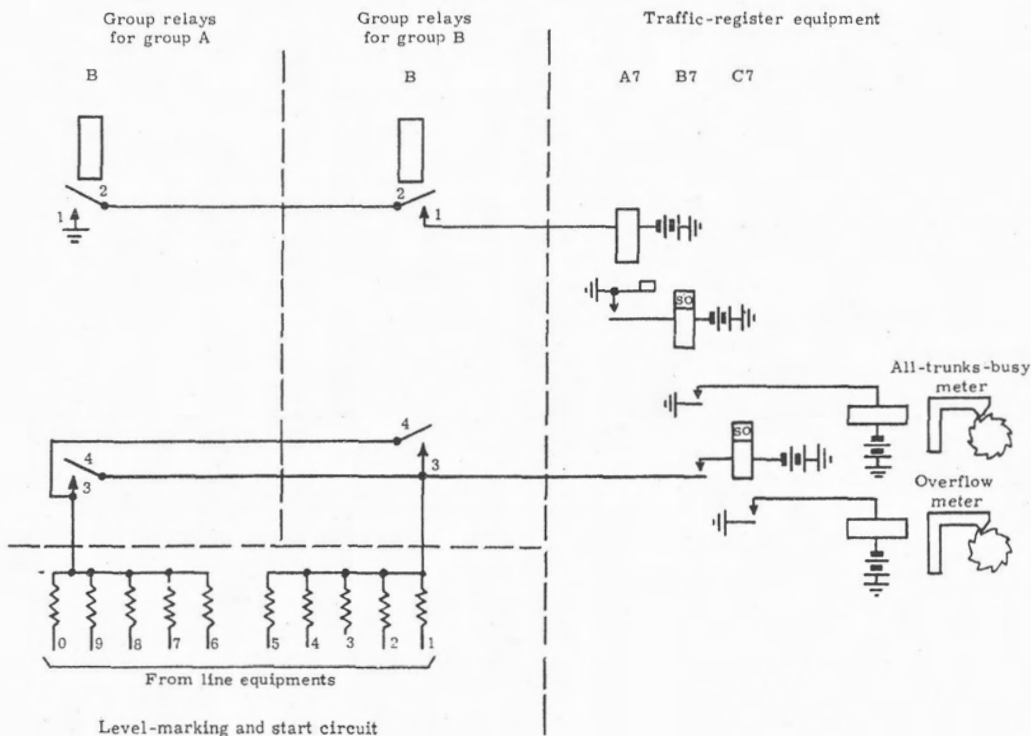

Figure 39. All-trunks-busy metering and overflow metering.
**6.62 All-trunks-busy metering (figure 39).** Group relay B releases whenever all linefinders of that group are busy (§5.2). When all linefinders of both groups are busy, both group relays B release, and operate weighted-spring relay A7. If this all-trunks-busy condition exists more than a couple of seconds, relay A7 ceases vibrating and operates relay B7 which operates the ATB (All Trunks Busy) meter, which counts the number of times all the shelf's linefinders are busy.
6.63 Overflow metering (figure 39). During an all-trunks-busy condition, both group relays B are released, and relays A7 and B7 are operated. Any line calling at this time will ground the level-marking and start lead and therefore operate relay C7 which will operate the OF (OverFlow) meter. This meter tends to count the number of calls attempted by calling subscribers who did not receive dial tone because all linefinders were busy, but will not give that count exactly if there are